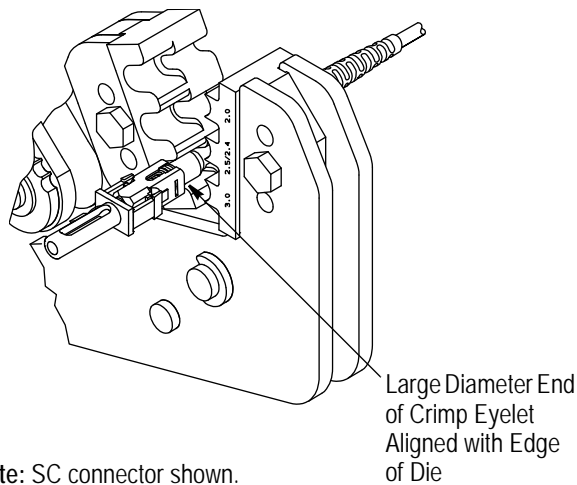
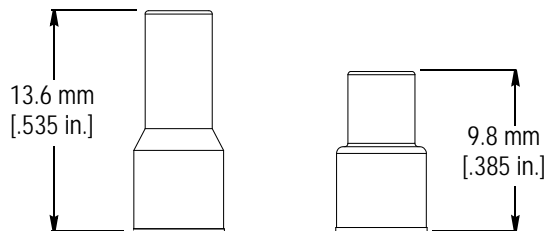

Figure 9
Figure 10
5. Place the crimp eyelet into the appropriate crimping chamber of the die of the tool. Align the edge of the large diameter end of the crimp eyelet with the edge of the die as shown in Figure 9. Make SURE to use the proper die set with the crimp eyelet being used. See Figure 10.